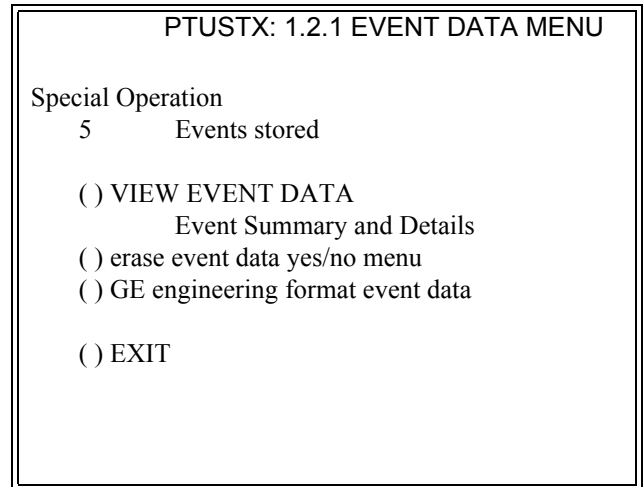

FIGURE 3-3. EVENT DATA MENU
11. If Figure 3-3 is displayed, you may select "VIEW EVENT DATA" and press [ENTER] to view events currently stored. A screen displaying a list of stored events appears.